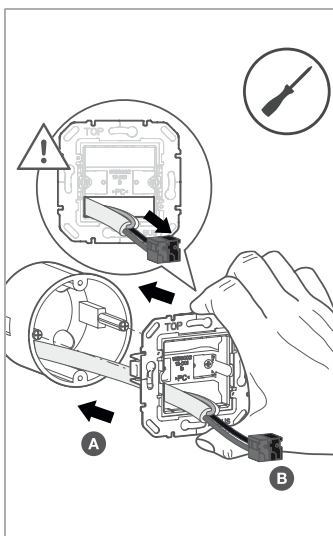
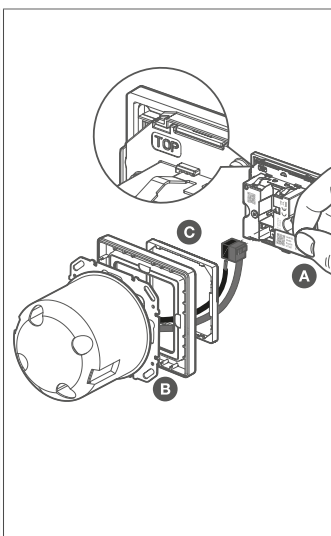

Fig. 7: Fitting the supporting ring
Fig. 8: Connecting the KNX bus connection terminal
- Mount the supporting ring in the correct position on a wall box (Fig. 7), note the 'TOP' marking.
- Run the bus cable with the connecting terminal through the frame and connect it to the back of the device. Route the KNX bus connection cable underneath the centre bar (Fig. 7/Fig. 8).